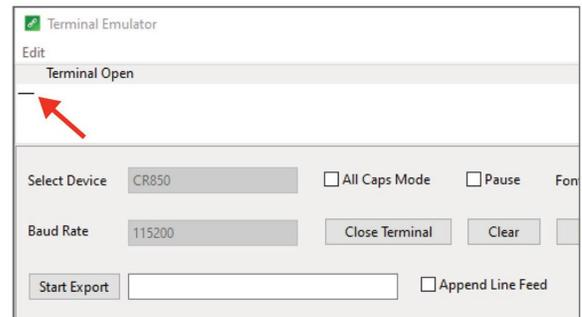

Figure 38. Open Terminal window
13. Place the cursor in the Open Terminal Emulator window (Figure 38).